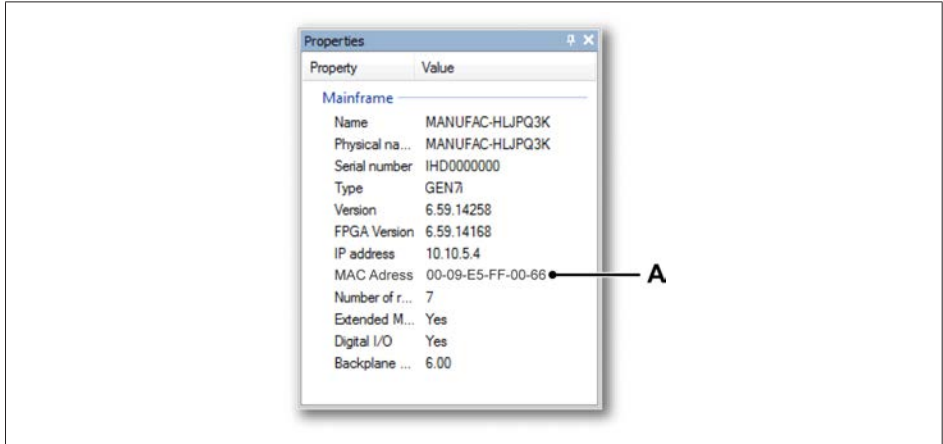

Fig. H.5 Properties window in Perception
3. Enable the **Properties Window** (see Fig. H.5); this can be found in the Perception “Windows” menu.